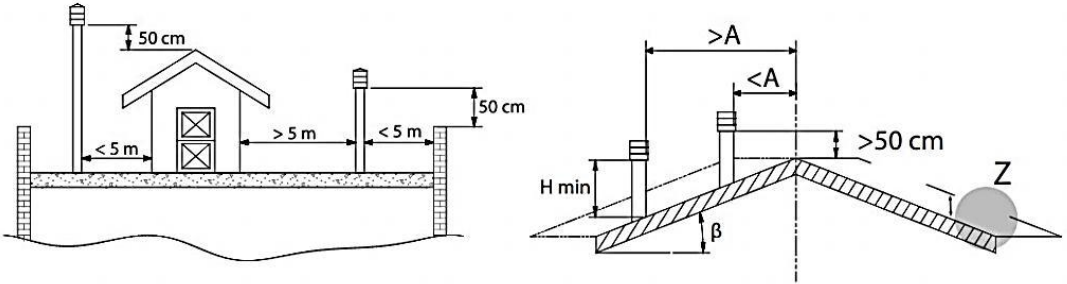

Figure 2
- installed to enable proper dispersion and dilution of combustion products outside the reflux zone (backflow) because the counter pressure occurs here. Therefore, it is necessary to adhere to limitations listed in *Figure 2*,